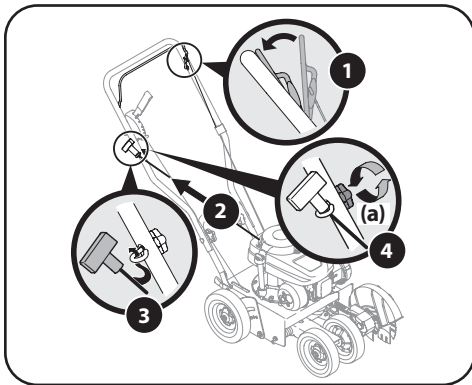

Figure 2-5
1. Stand behind the edger and hold the blade control against the upper handle. See Figure 2-5.
NOTE: The starter rope will not pull out of the engine unless the blade control (refer to Figure 2-5) is depressed against the upper handle.